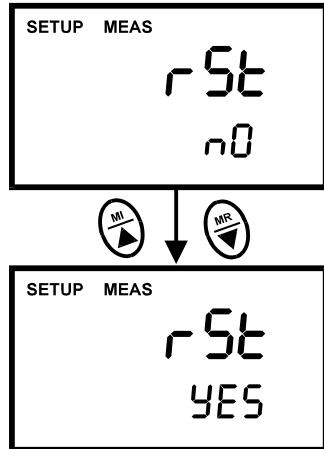

Figure 33 - P5.0: Reset to factory default values (pH 300 meter only)
3. Press the ENTER key to enter parameter P5.0. See Figure 33.